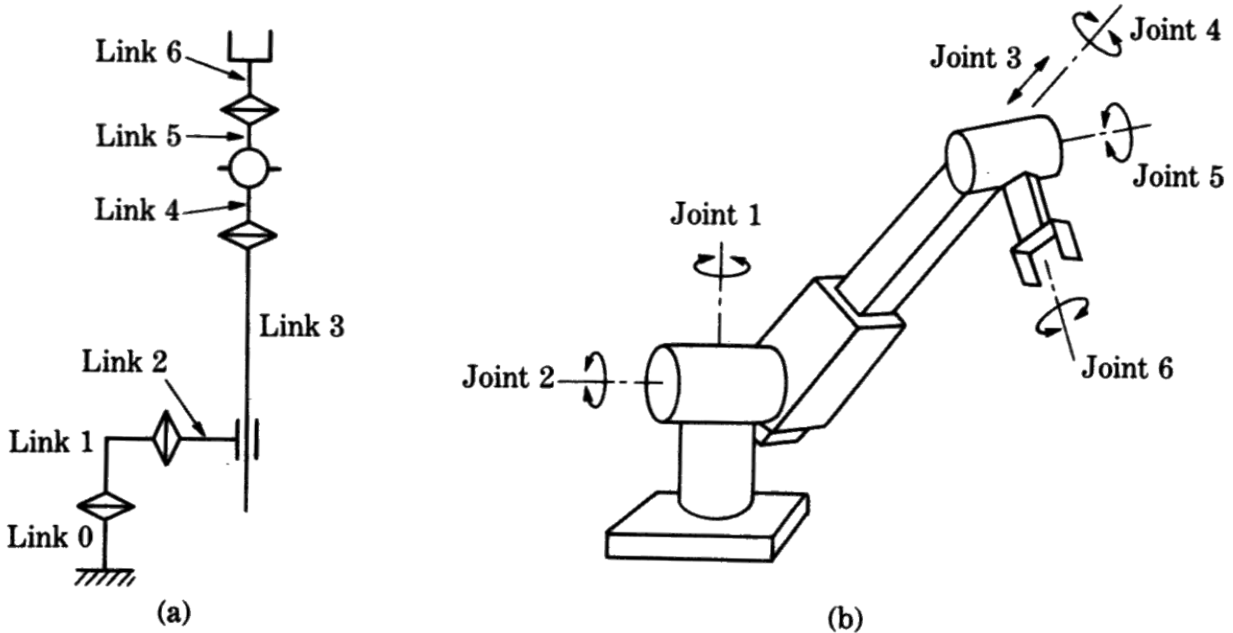

Figure 3: Stanford manipulator.
Task 2.3 (3 points) DH-Parameter Stanford manipulator: The Stanford manipulator has five revolute joints and one prismatic joint. Figure 3(a) illustrates the general idea and figure 3(b) shows the general configuration of a Stanford manipulator. Assume the distance between joint 1 and joint 2 to be d_2 , and the distance between joint 5 and joint 6 to be d_6 . Specify the coordinate frame of each joint in the drawing and present the corresponding Denavit-Hartenberg (DH) parameters as a table.